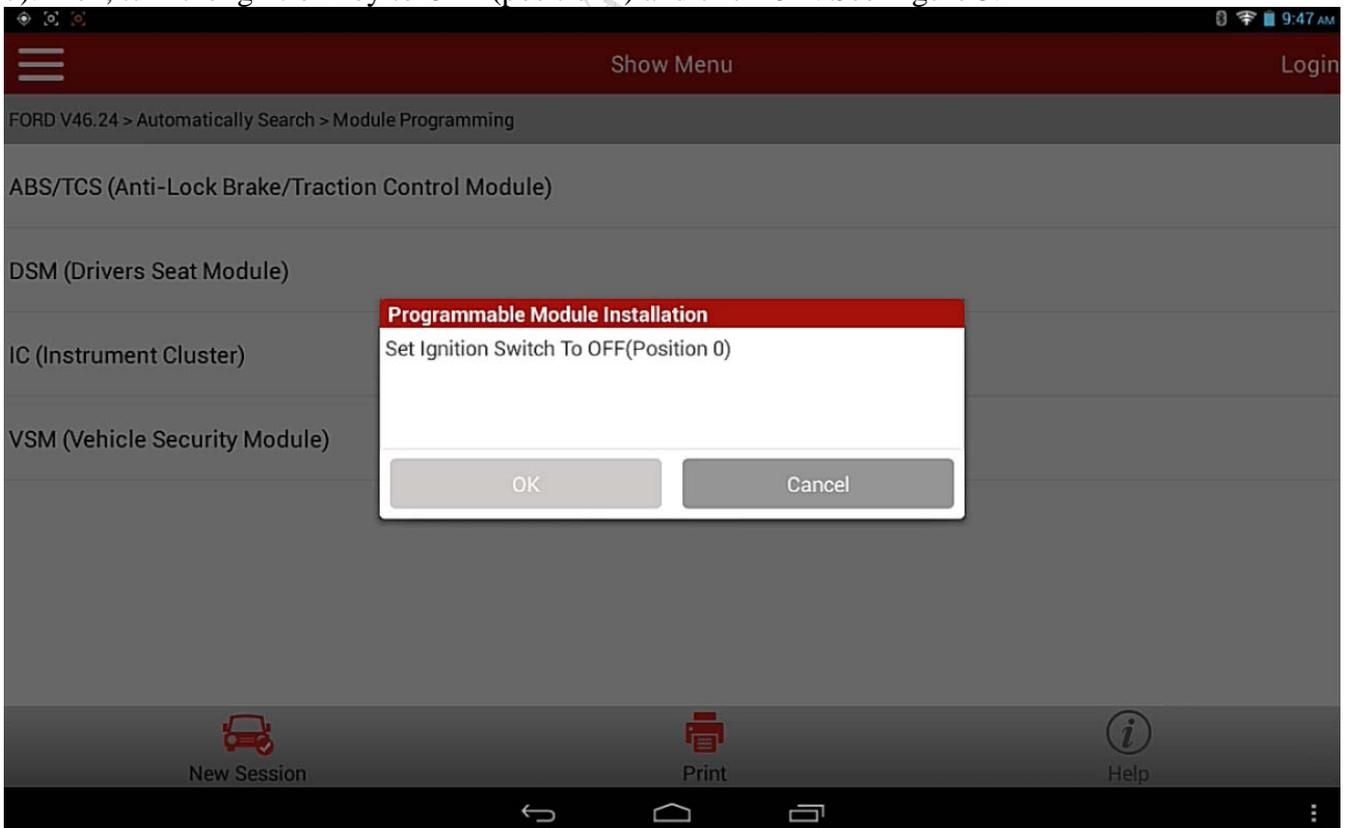

Figure 3
7). Then, turn the ignition key to OFF (position I) and click OK. See Figure 3.